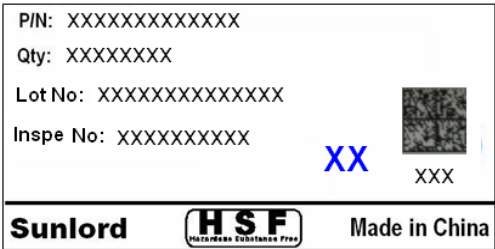

Fig.9.2.3-2B
- 3) Marking on outer case (Refer to Fig.9.2.3-3~5):